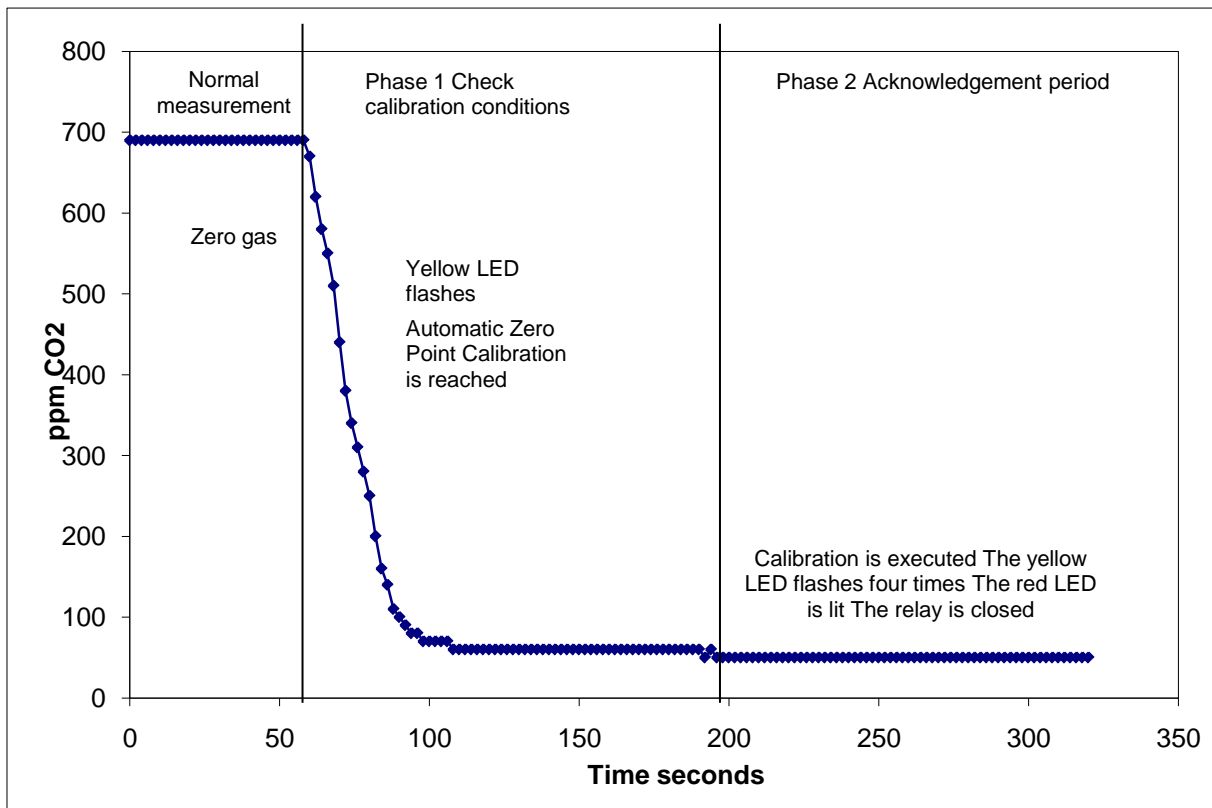

Figure 2. An example of Automatic Zero Point Calibration
2. Connect the zero gas to the nipple. The sensor automatically enters phase 1 of the calibration procedure when the CO2 concentration drops sharply. See figure 2. Do not remove the zero gas during calibration.